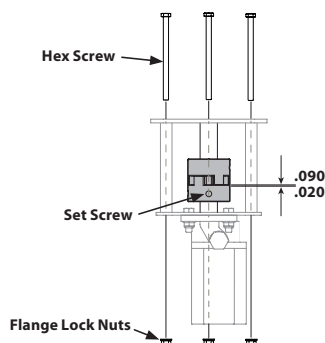

Figure 22
2. Remove the three flange lock nuts and hex screws that secure the pump to the coupling shield. Two flange lock nuts and hex screws are at the bottom corners and one is in the top center. See Figure 22.
11. Set .020" to .090" of a clearance/gap between the nylon "spider" and the engine coupling half by sliding a feeler gauge between the nylon "spider" and the engine coupling half and moving the pump coupling half as needed. Install the set screw and torque to 78 in-lbs to secure the pump coupling half. See Figure 22.